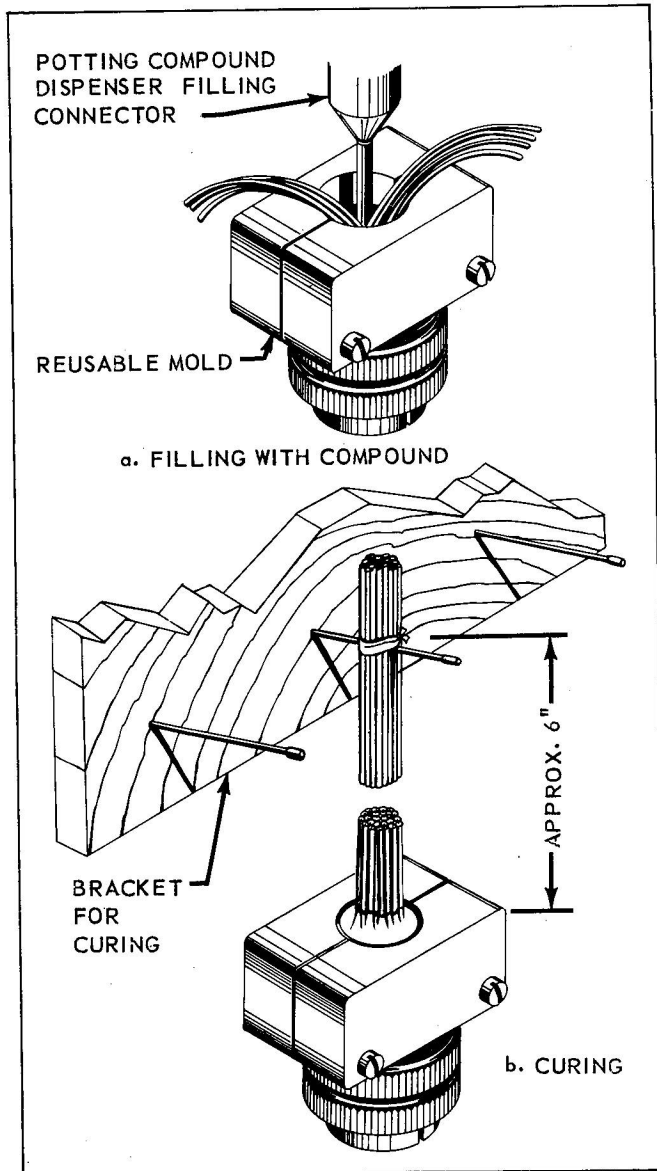

Figure 3-49. Filling and Curing Potting Connector
- g. Insert potting compound prepared in accordance with paragraph 3-67. Fill back of connector by inserting nozzle down between wires until it almost touches back of insert (See Figure 3-49). Fill slowly while moving nozzle back from insert and watch compound to be sure no air bubbles are trapped. Fill to top of mold. Tamp down the compound, if necessary, with a wooden or metal 1/8 inch dowel. Tap connector assembly on a resilient surface or vibrate mechanically to help flow the compound into all spaces and to release trapped air.
- i. Immediately after filling each connector, tie the wires together loosely about 6 inches back from connector. Be sure that wires are centrally located in the connector so that each wire is completely surrounded by potting compound. Suspend the assembly by placing the tie over a nail as shown in Figure 3-49 and allow to air cure for at least 1-1/2 hours at 75°F without any movement.